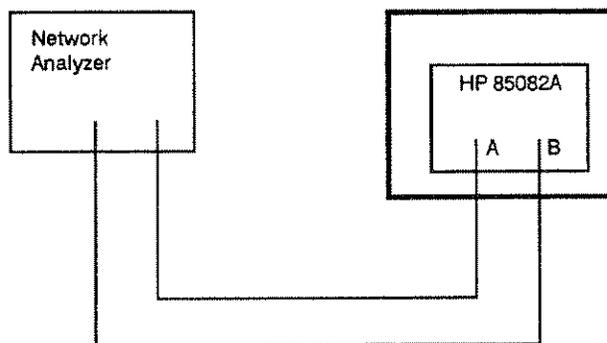

Figure 4-9. SWR Measurement Setup
1. Connect the equipment as shown in Figure 4-9.